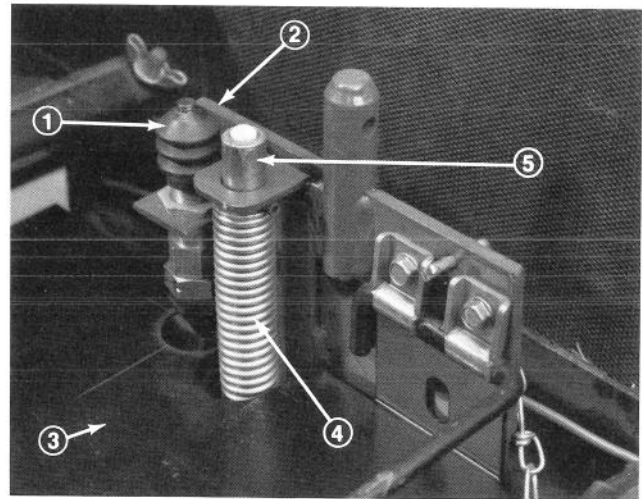

Figure 6
1. Insert pin part way into hole in top of seat support bracket on machine (Fig. 6).